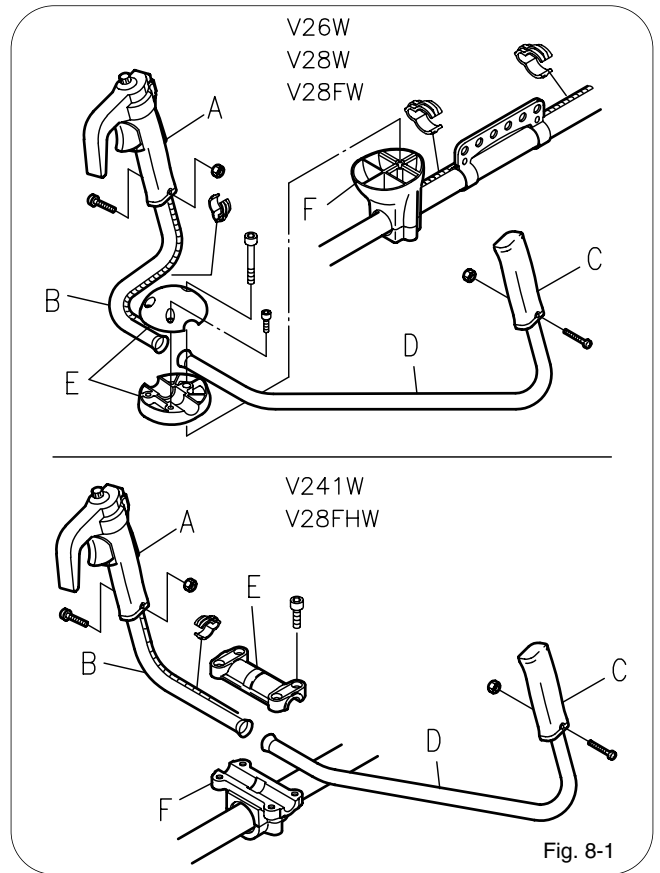

Fig. 8-1
Mount the control handle (A) on the handle (B) and the grip (C) on the handle (D). Engage individual handles with the grooves in the handle holder (F), hold them with the handle holder (E), and fix them with bolts. Fix the wire/cord Assy to the handle with a band. (Fig. 8-1)